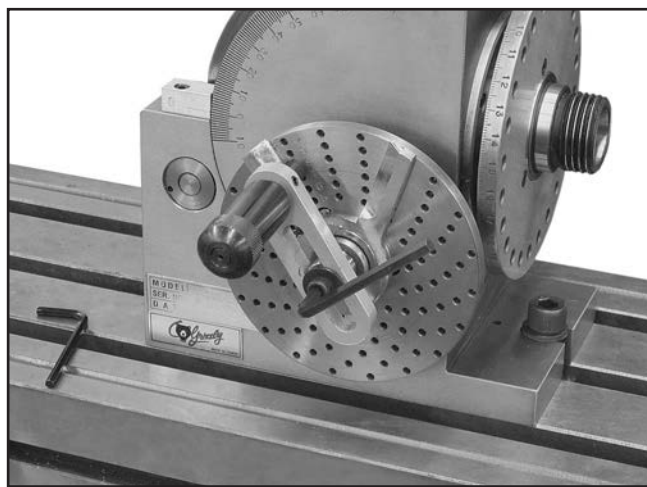

Figure 21. Index pin between the sector arms and seated in the 18 hole circle.
3. Loosen the sector arm cap screw, spread the sector arms apart so that you can position the index pin of the crank handle between the sector arms and in a hole of the 18 hole circle, as shown in **Figure 21**.